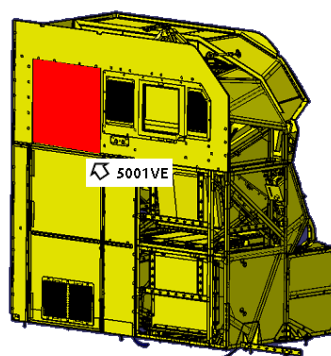

Figure 1. *Panel Location.*
6.2.2 On the control panel 5001VE (*Figure 1*), set the GND SELEC CTL switch to ON.
6.2.7 On the control panel 5001VE (*Figure 1*), set the GND SELEC CTL switch to OFF.